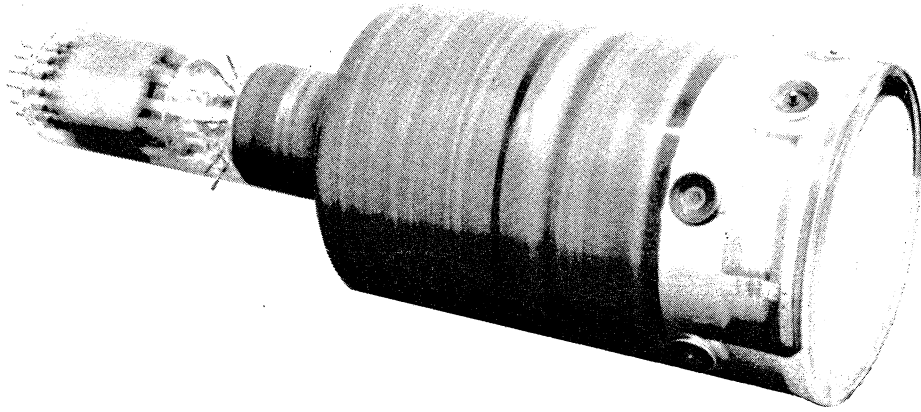

FIGURE 2a MEMOTRON STORAGE TUBE
- Figure 2a. MEMOTRON Storage Tube